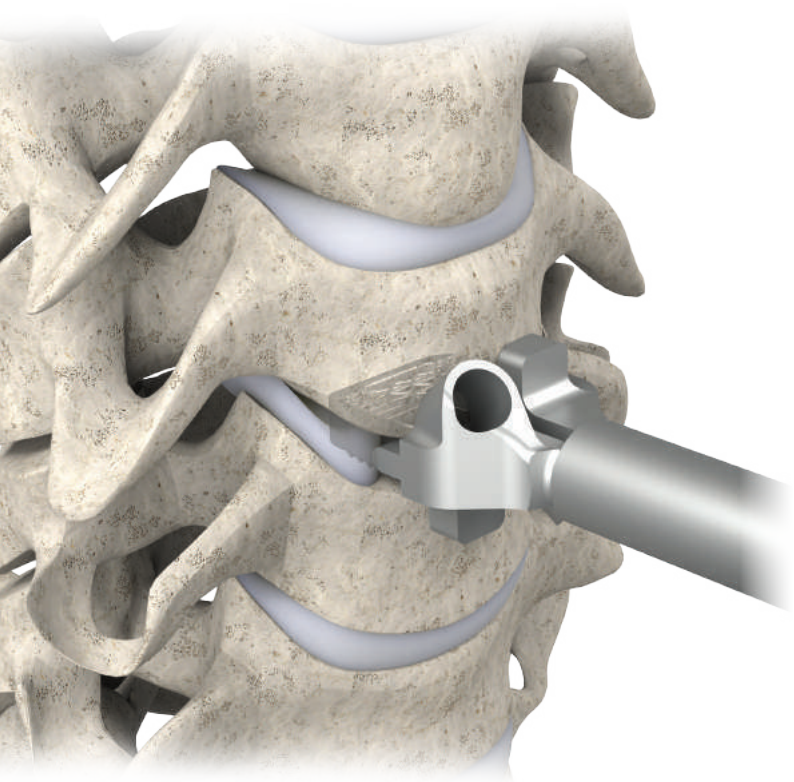

Figure 5a
- Attach the cage to the **Combi Guide (TSAC010)**. Insert the spacer into the intervertebral space. A **Hammer (CPC011)** may be used to gently position the cage within the disc space (Figure 5a-5b).